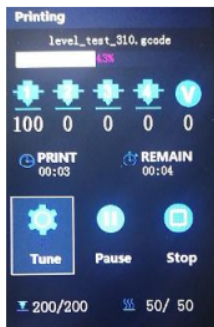

Fig 1
1. Copy level_test_310.gcode  to SD card and print it from SD card (Fig 1).